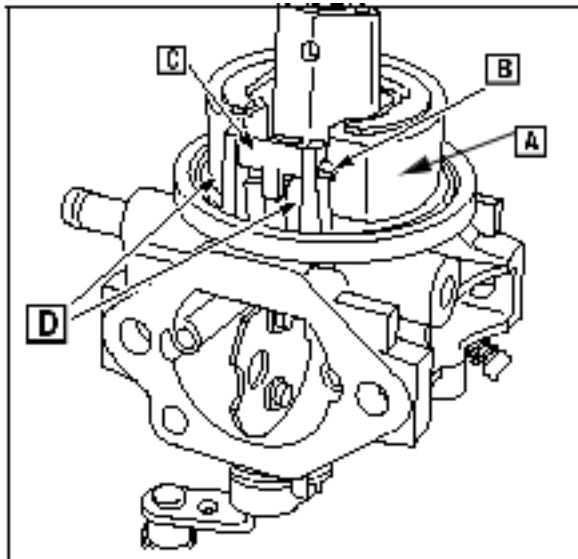

Fig. 90
Place float assembly (A) in carburetor, Fig. 90.
Insert the small end of the float hinge pin (B) by hand until pin is through the float hinge (C) and both hinge pin posts (D), Fig. 90.